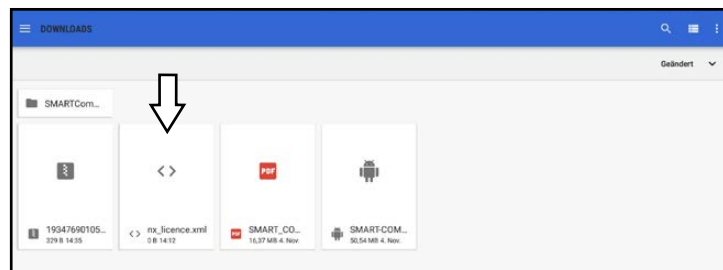

Fig. 163: Importing the license
9. Select the file on the tablet (see Fig. 163).